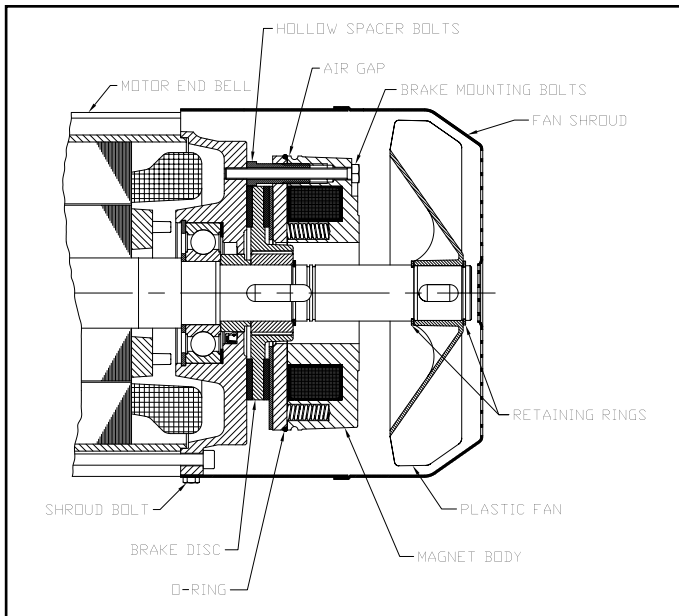

Figure 5-8. Motor Brake
- (3) Remove the four (4) bolts attaching the fan shroud to the motor and remove the fan shroud. See Figure 5-8.
- (4) Carefully roll the large O-ring from the groove over the air gap back toward the magnet body. Do not excessively stretch this O-ring.
- (5) Measure the air gap using feeler gages. If the air gap exceeds the maximum value shown in Table 5-1, the air gap must be reset.
- (6) To measure the thickness of the friction disk, it is necessary to remove the brake body from the motor end bell. Remove the three (3) brake mounting bolts and draw the brake body away from the friction disk. Carefully set the brake body down on the motor shaft directly in front of the fan. Draw the friction disk away
- (1) Lower hook block to the floor and relieve all load from ropes.
- (2) Make sure power to the hoist is off and locked out.
- (4) Remove the snap ring behind the plastic fan. Carefully remove the fan and key from the motor shaft. Remove the snap ring in front of where the fan was mounted.
- (5) Disconnect the two wires from the terminal block on the magnetic body.
- (6) Remove the three mounting bolts that attach the brake body to the motor end bell and remove the brake body from the motor. Remove the friction disk from the motor shaft.
- (7) Clean and inspect all components and working surfaces. Replace all damaged or worn components as necessary. Measure friction disk thickness and